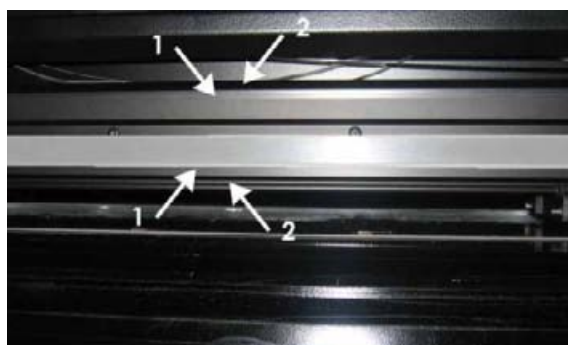

FIG 5-4
Two areas (1) are visible on the front side of the guide rail. The other 2 surfaces (2) are on the back of the guide rail, directly behind the areas that are visible at the front. Figure 5-4 below shows the areas. Even though the shape of the Y-guide rail may differ from model to model, the areas are located in the same place at the top and bottom of the guiding.